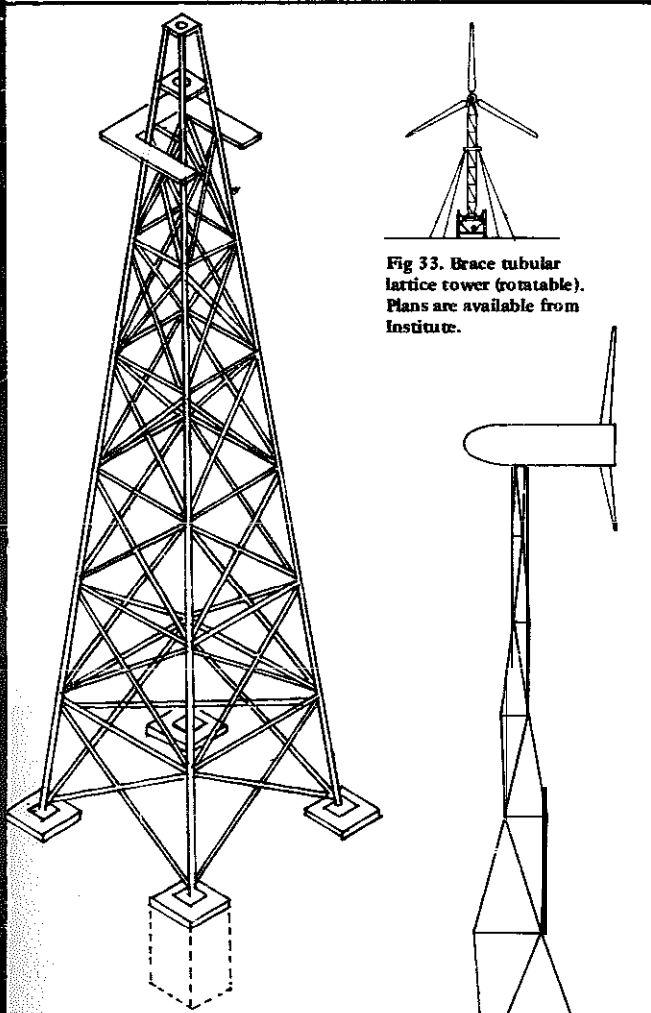

Fig 33. Brace tubular lattice tower (rotatable). Plans are available from Institute.
d) Rotating mast. Instead of just pointing the machinery at the top of the mast into the wind, the whole mast can be rotated. The Brace Research Institute's 32 ft diameter airscrew windmill is oriented in this way (see Fig 33). But it does not turn automatically, and has to be moved by means of a hand crank driving a truck crown wheel and pinion at the base. This method is obviously not as suitable as the automatic control offered by systems a, b and
The type of tower chosen should be one that calls for the minimum of technical skill in construction. A simple lattice tower with three or four legs, depending on relative costs, can be made of timber, as in Jim Sencenbaugh's self-build design (Fig 32), or one of the Brace timber lattice masts (Fig 33). Or, more commonly, of steel (Fig 34)—although this is not so suitable for the self-builder, unless an old electricity pylon or a floodlight, railway signals or radio mast can be scrounged.